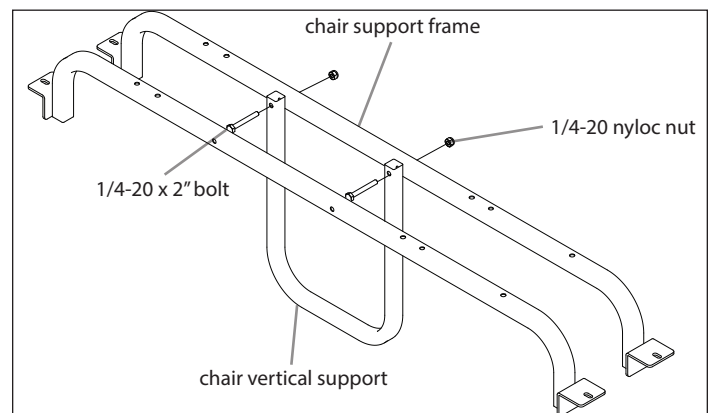

FIGURE 3
4. Attach the chair vertical support (11305) to the back chair support frame (11300) using (2) 1/4-20 x 2" bolts, (2) 1/4-20 nyloc nuts, and (2) 1/4" washers. **SEE FIGURE 3**